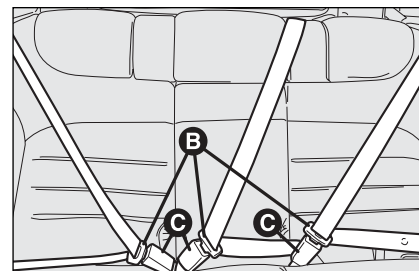

fig. 100
- ☐ for versions with rear fixed seat, before folding the seat back, fit the seat belt tabs **B**-fig. 100 into the proper buckle **C**;